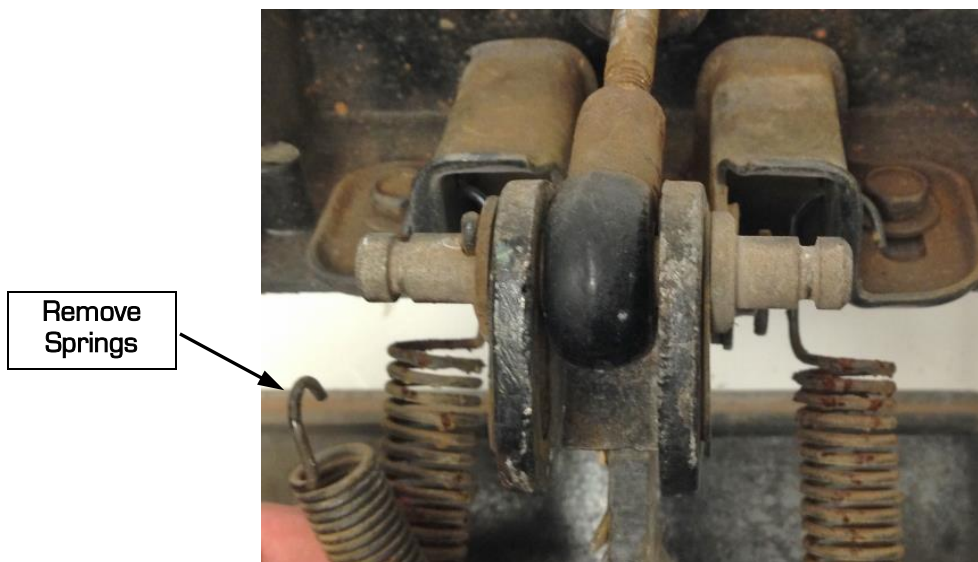

Figure 2 - Remove Springs
3. First, remove the inside pair of springs from the pivot pin with a pair of needle nose pliers (Figure 2). **NOTE:** Wear safety glasses when removing the springs.